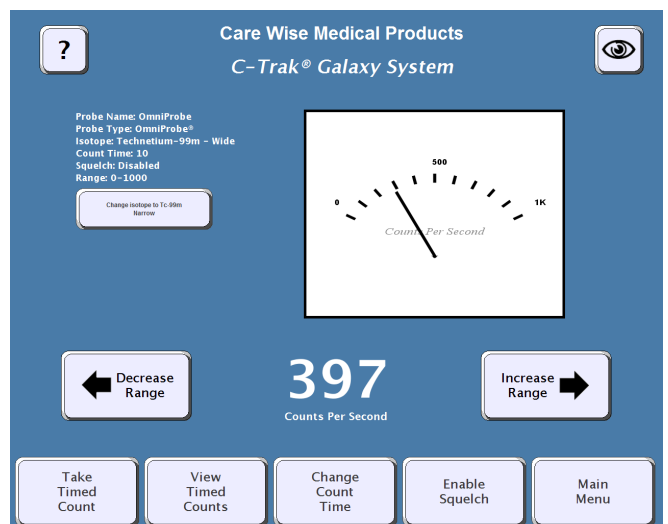

Figure 5 – Count Screen with Analog Meter
(1) Rate Meter Display
- There are three versions of the RATE METER DISPLAY. The default, shown in Figure 4, uses a wedge-shaped indicator to show the amount of radiation detected. The other two versions of the RATE METER DISPLAY are an analog indicator and a histogram of counts per second over time. These are shown in Figures 5 and 6 respectively.